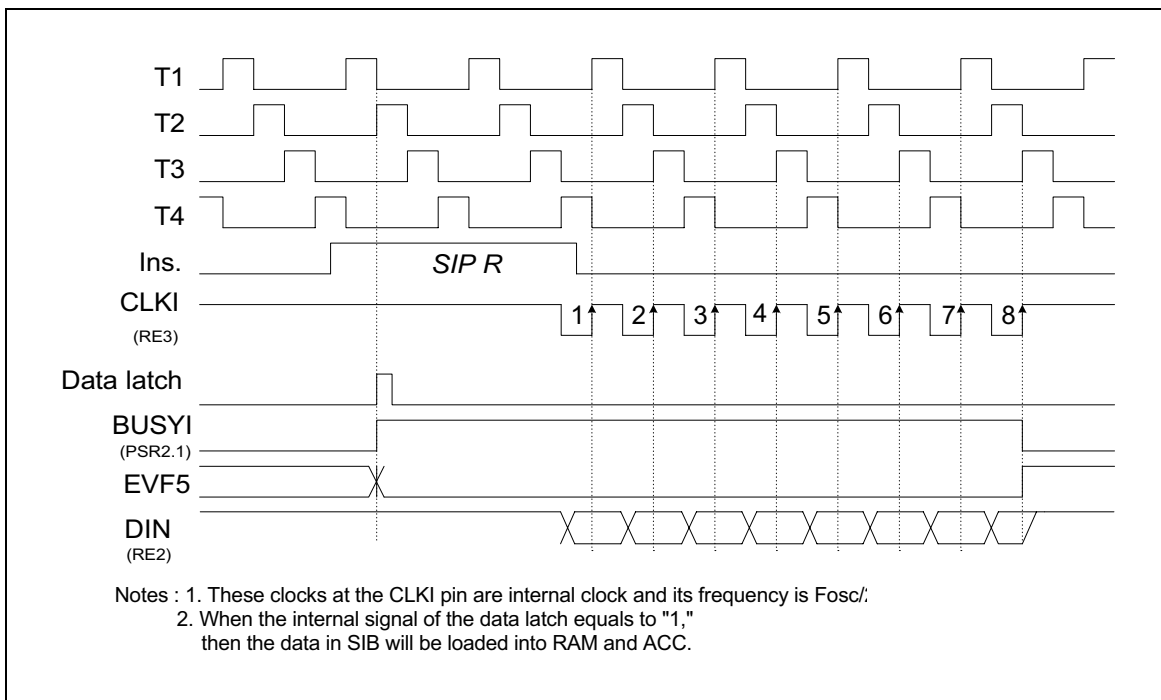

Figure 11. Timing of the Serial Input Function (SIP R)
(1) When the SIP R instruction is executed, the data will be loaded from the serial input buffer to the ACC and RAM first, and bit 1 of port status register 2 will automatically be set to "1" ($BUSY_I = 1$). Then the CLKI pin will send out 8 clocks and the data from the DIN pin will be loaded to SIB at the rising edge of the CLKI pin. After the 8 clocks have been sent, $BUSY_I$ will be reset to "0" and EVF.5 will be set to "1." At this time, if IEF.5 has been set ($IEF.5 = 1$), an interrupt is executed; if HEF.5 has been set ($HEF.5 = 1$), the hold state is terminated. Users can check the status of PSR2.1 ($BUSY_I$) to know whether the serial input process is completed or not. If a serial input process is not completed, and the SIP R instruction is executed again, the data will be lost. The timing is shown in Figure 11.